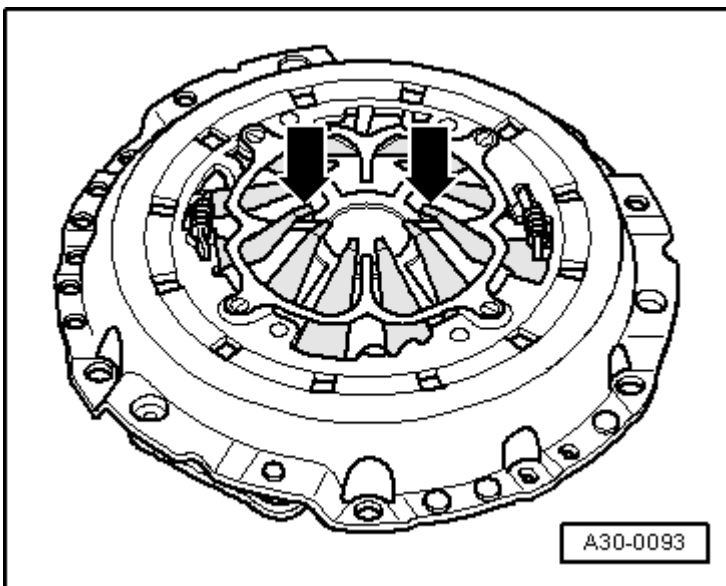

Fig. 8: Checking Ends Of Diaphragm Spring
- Check the ends of the diaphragm spring, refer to **Fig. 8**